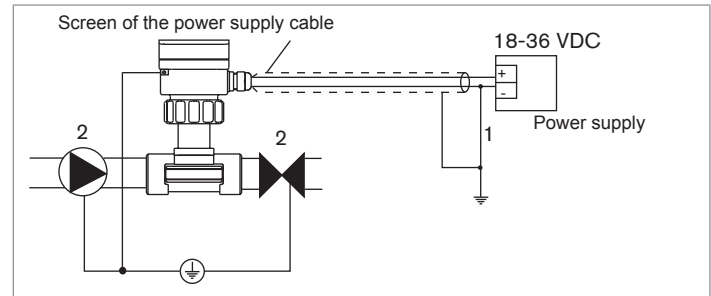

Figure 12: Transmitter grounding
- Connect the negative pole of the power supply to ground to suppress the effects of common mode currents. If the connection cannot be made directly, a capacitor with 100 nF/50 V can be switched between the negative pole and ground (item 1 in Figure 12).
- connect the different devices made of metal (valve, pump, etc.) (item 2 in Figure 12) in the vicinity of the transmitter to the same ground.
- Insert metal pieces (not included with delivery) upstream and downstream from the transmitter (item 2 in Figure 12).
- Connect the metal pieces to the same ground (Figure 12).